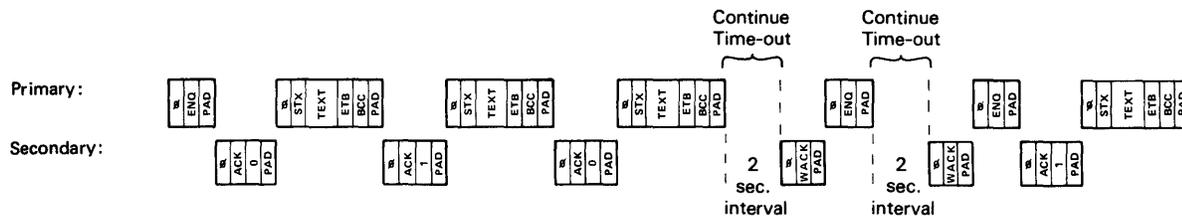

Figure 4-12. Continue Timeout (Secondary Station)
- **Continue Timeout (Two Seconds).** If a secondary station is not ready or busy and cannot give a positive response within two seconds after receiving an ETB or ETX block-check sequence, it "times-out" and sends a WACK (Figure 4-12). The timeout resets after an ENQ is received in response to the WACK. If an EOT is received in response to the WACK, transmission is terminated, and the timeout is not restarted.